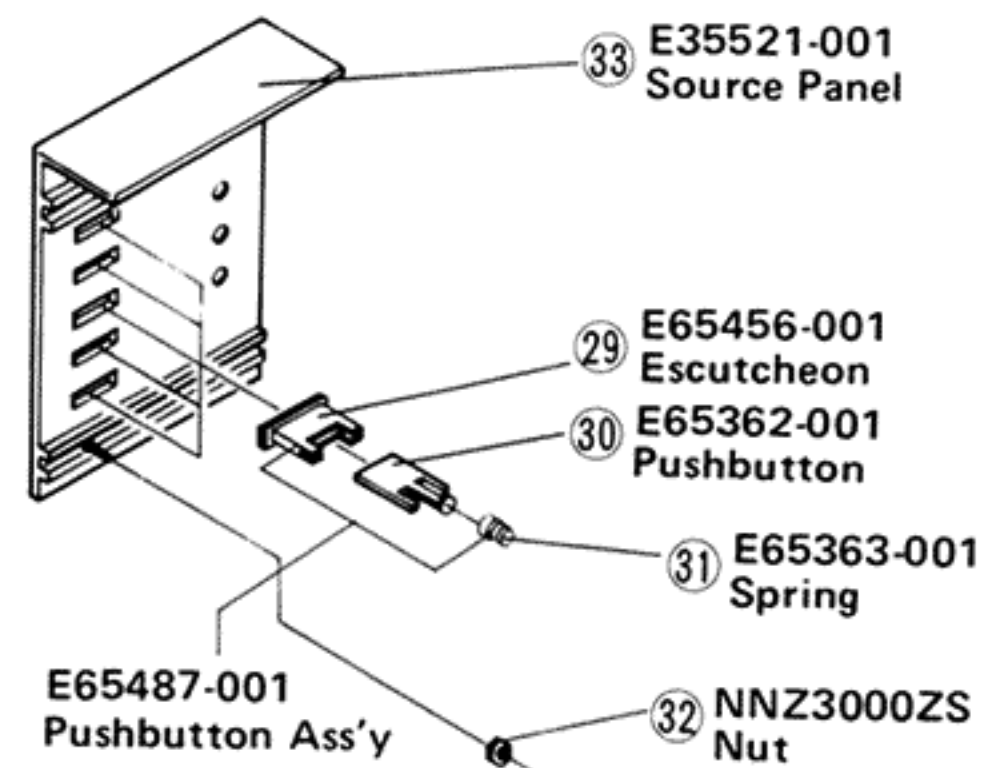

Fig. 7B
3. Squeeze the both ends of escutcheon then, pull out the pushbuttons (Item No. 30) slightly. Refer to Fig. 7B.